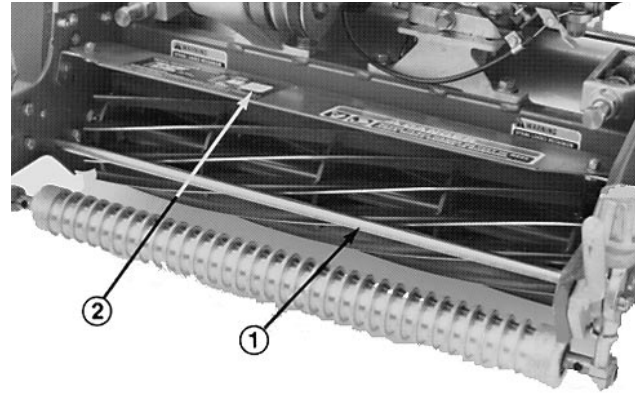

Fig. 9
1. Measure the distance from the top of the front support rod to the front lip of the shield at each end of the cutting unit (Fig. 9).